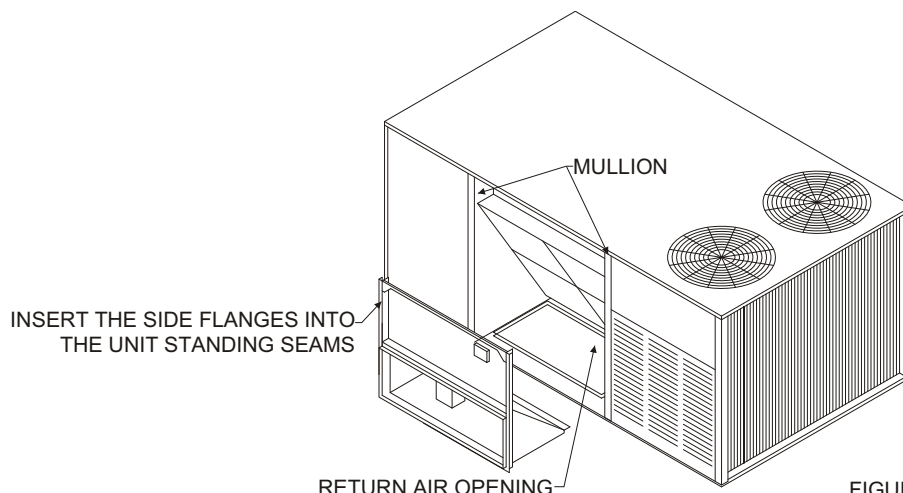

FIGURE 2
6. Route wiring to the right side of the economizer and slide into the unit. Position the mixed air sensor and control board in the filter section routing wiring along right side of the horizontal return air section. Insert economizer side flanges into the unit standing seams. Using existing screws from bottom of discarded panel to secure economizer bottom flange to unit. **See Figure 2.**